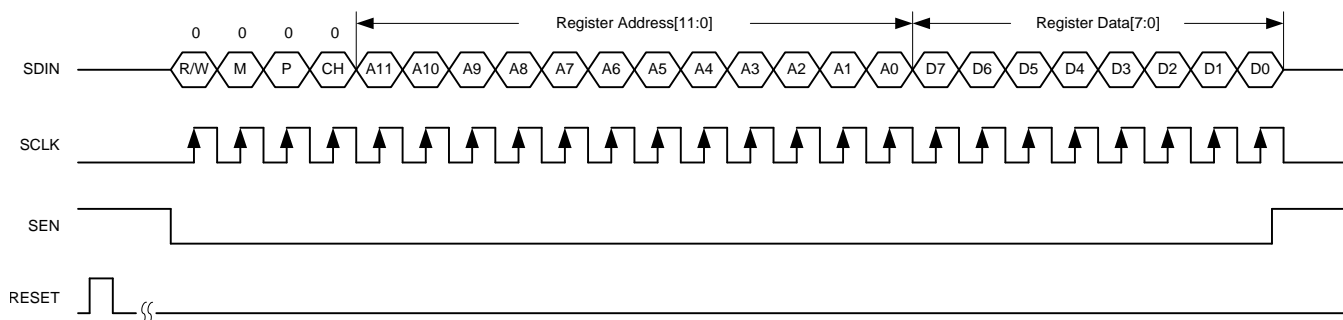

Figure 66. Serial Register Write Timing Diagram
3. Writing the register content, as shown in Figure 66. When a page is selected, multiple writes into the same page can be done.